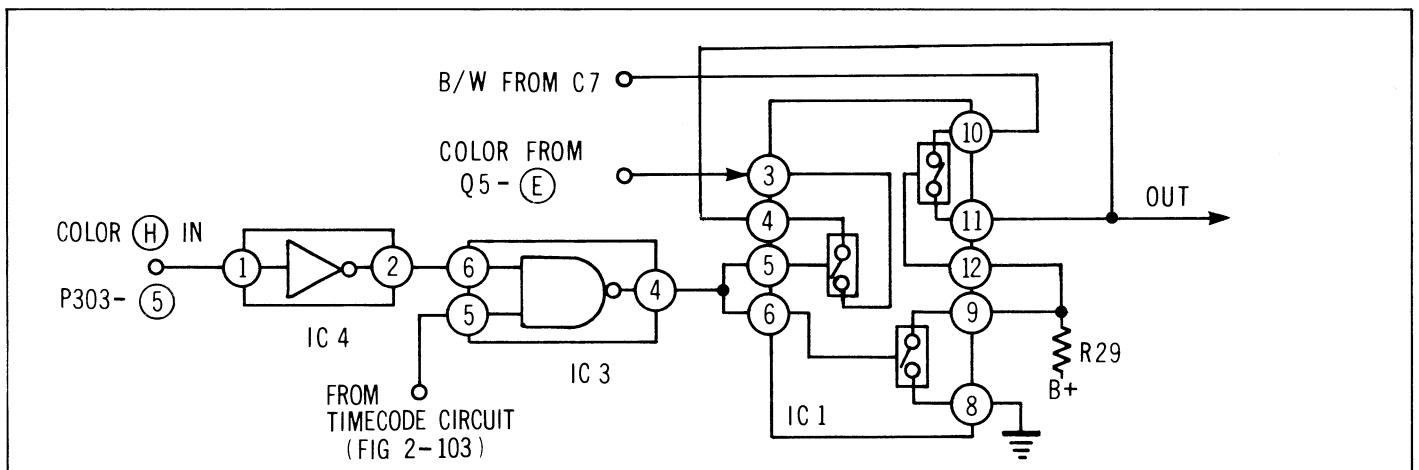

Figure 2-93
A Color (H) signal from Pin (5) P303 is inverted by IC4 (1), (2) and passed through NAND gate IC3-4 (5) and (6) to drive switches IC1-4 (3) and IC1 (8), (9). (See Fig. 2-93)